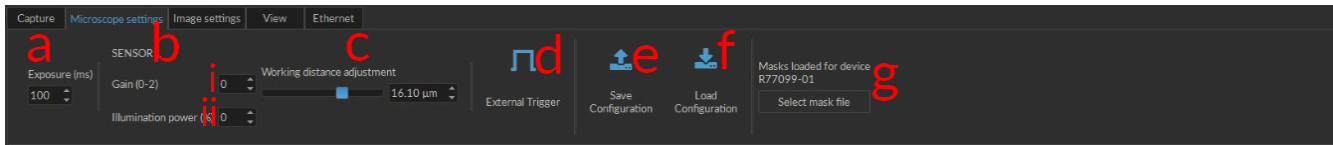

Figure 3.52: Microscope Settings Tab
3. **Microscope settings** tab (Fig. 3.52) is used to set parameters related to the microscope recording images.
- a) The **Exposure** box (Fig. 3.52) sets the exposure time of the sensor. The time can be set between 22 and 1000 ms.
- b) The **SENSOR** section (Fig. 3.52) defines characteristics for a single sensor and the associated excitation source. When a microscope used has multiple sensors, multiple **SENSOR** sections will be displayed, one for each sensor.
- d) The **External Trigger** button (Fig. 3.52) opens the **external trigger** window.
- e) The **Save configuration** button (Fig. 3.52) will save all **Microscope settings** and **Image settings** in a **.doric** format file.
- f) The **Load configuration** button (Fig. 3.52) will load a selected configuration file.